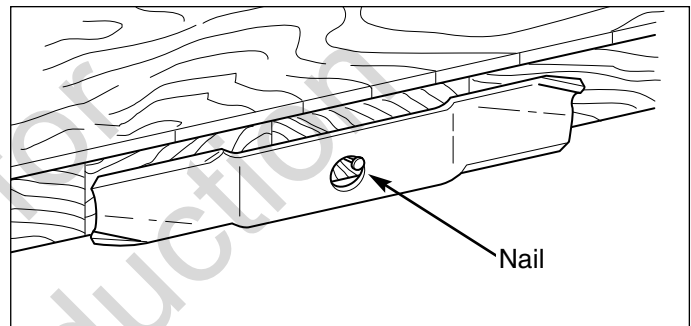

Figure 8. Balancing The Blade
- Balance the blade as shown in Figure 8. Center the blade's hole on a nail lubricated with a drop of oil. A balanced blade will remain level.